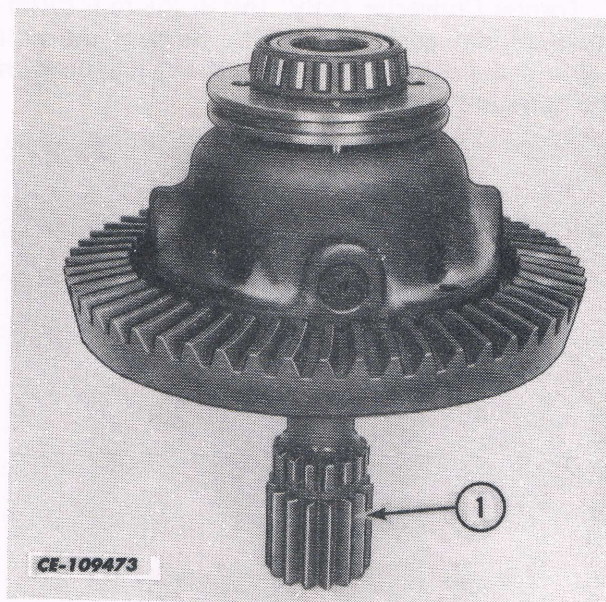

Fig. 17
8. Position the assembled differential carrier on the ring gear assembly (Fig. 17).